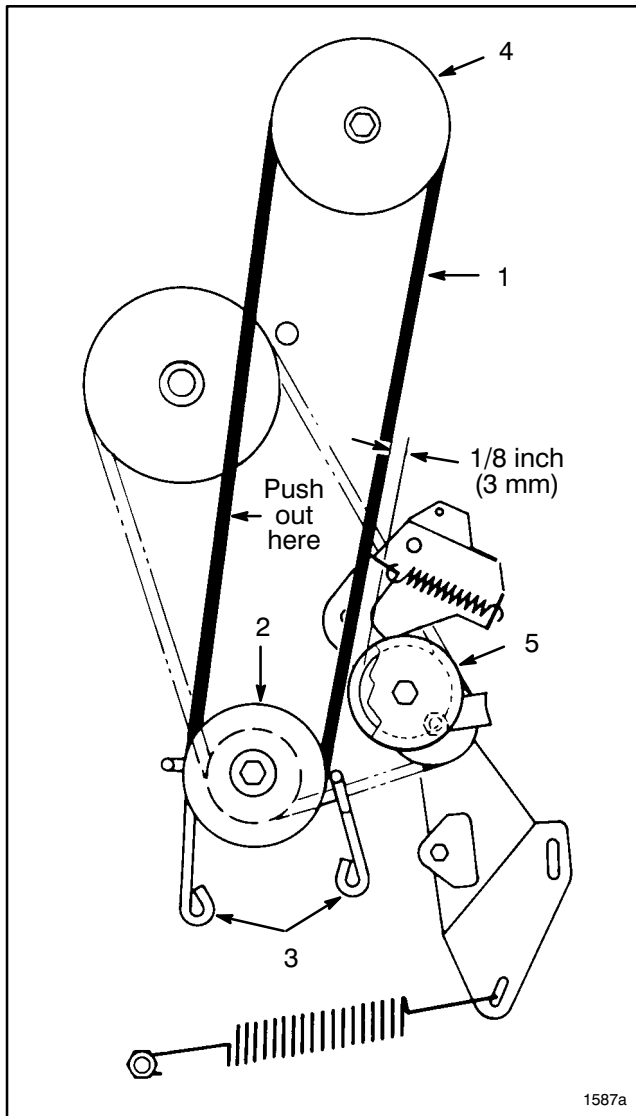

Figure 19
7. Loosen capscrews securing (2) engine pulley belt guides and move guides away from pulley. Remove deck drive belt from engine pulley (Fig. 19).
9. Remove (2) screws securing belt guide to mower housing and remove belt guide. Remove belt from pulley.
12. Pushing out on belt (removing slack), as shown in fig. 19, check clearance between outside of belt and inside of idler pulley (Fig. 19). Clearance should be approximately 1/8 inch (3mm).